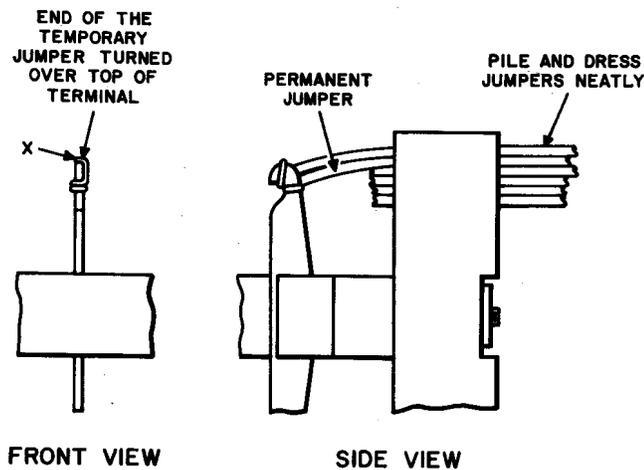

Fig. 14—Temporary Cross-Connections on 35- or Similar-Type Terminal Strip Without Back Notch Terminals
**9.08** On terminal strips without extra terminals where the terminals do not have a back notch (Fig. 14), route the jumper along the top of the permanent jumper, through the notch, up and across the top of the terminal and solder. Cut or break the wire at point "X".